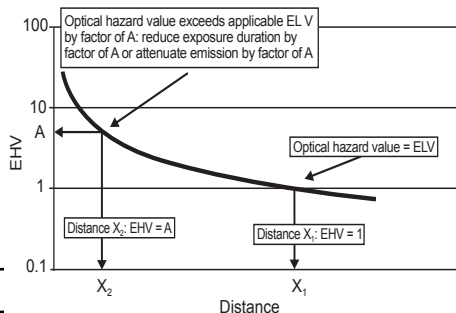

Figure 1 – Example of graphic presentation of distant dependent emission hazard values
With increasing distance from a lamp the applicable hazard values decrease - see Figure 1. At the distance X_1 , $EHV = 1$, i.e. the EHV equals the applicable emission limit value. Distance X_1 is the hazard distance (HD) for this lamp system. At distance X_2 , the optical radiation hazard value exceeds the applicable emission limit value by a factor of A . At this distance, excessive exposure to optical radiation may be reduced either by restricting exposure time by a factor of A (if the emission limit values are expressed in terms of radiant